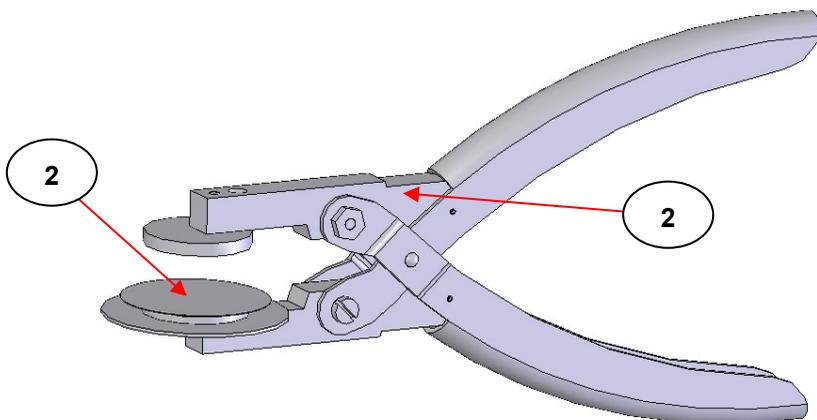

Fig 11. Foil Disc for Pressing in Sample Cup Tool to Make the Sample Cup Cover
Using the forceps supplied place an aluminium foil disc (21) inside the three locating prongs of the cup making tool (24). If a reduction in spectroscopic interference fringes is sought for thin films, then the foil disc (21) should be placed matt side up. Conversely if fringes are required, then place the foil disc (21) shiny side upwards inside the three locating prongs of the sample cup tool (24). (See Fig 11.)
Carefully lift the Top Half Assembly using the lifting handle (16) from the **Sampling Position** to the **Loading Position** (See Fig 11.).